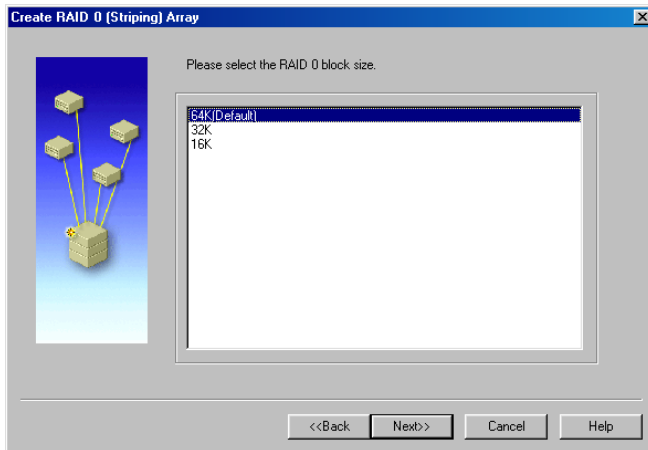

Figure 5-9 Block Size Menu
- 3 Select the Block size from the Block Size screen, then click **Next** (see Figure 5-9).